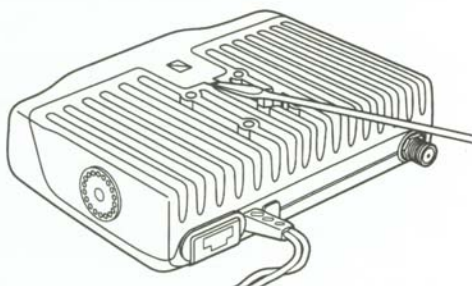

Figure 1-1. Remove Housing
2. Remove housing cover by sliding a flat bladed screwdriver under cover latch (located bottom of radio) and gently pry upward until latch disengages. (Figure 1-1.)